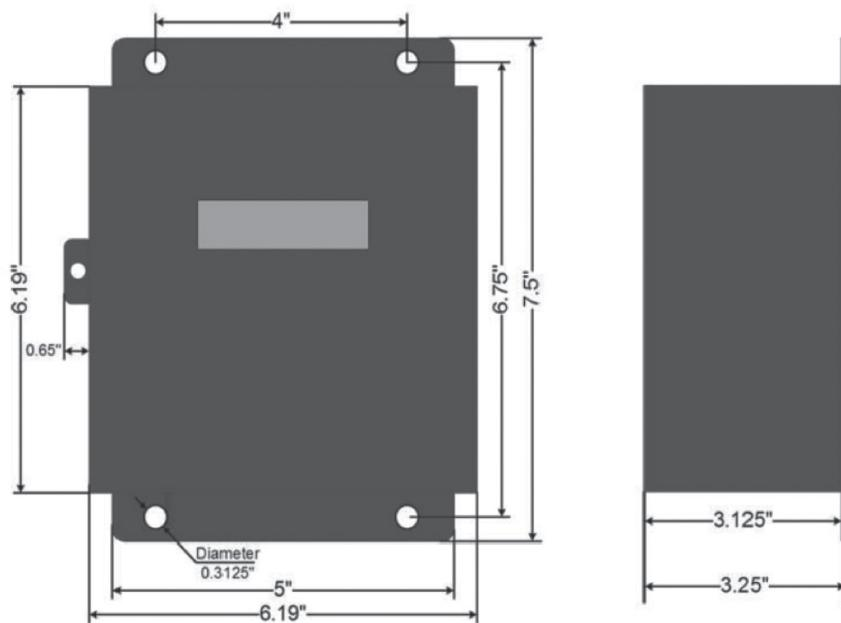

Figure 1 - Steel Enclosure Dimensions
| Figure 1: Steel Enclosure Dimensions | 5 |
1. Industrial grade JIC steel enclosures for indoor installations, shown in Figure 1